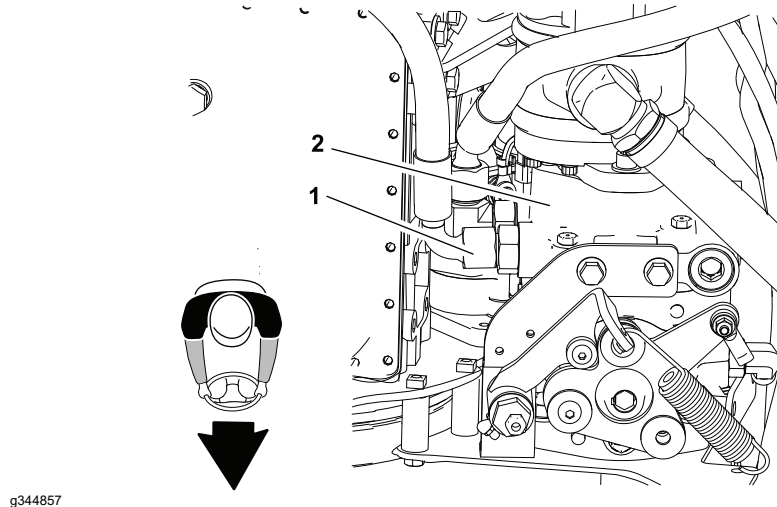

Figure 40
1. Disconnect the hose from the lower hydraulic fitting on the bottom of the hydrostat (Figure 40).